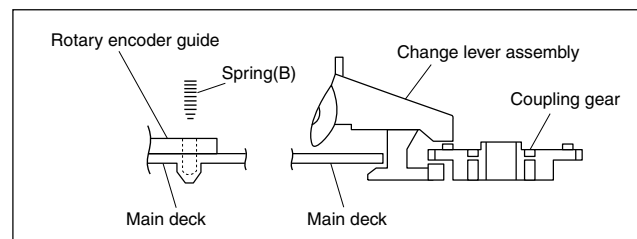

Fig. 2-2-12b
- (2) Let the spring (B) drops into the rotary encoder guide hole and install the change lever assembly.(Take care not to mistake a direction of the spring.) The point is to slightly lift the coupling gear and catch it from the both sides with the assembly. (See Fig.2-2-12b.)